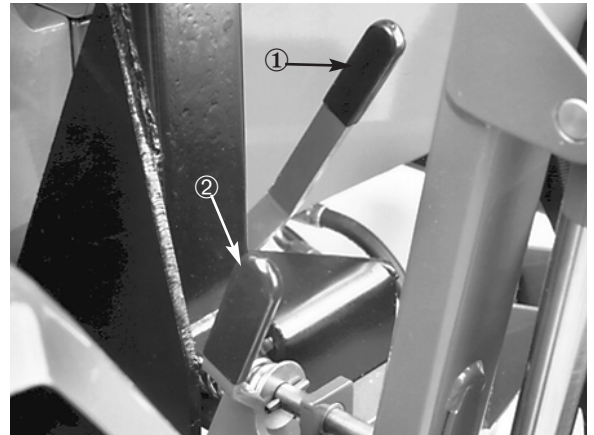
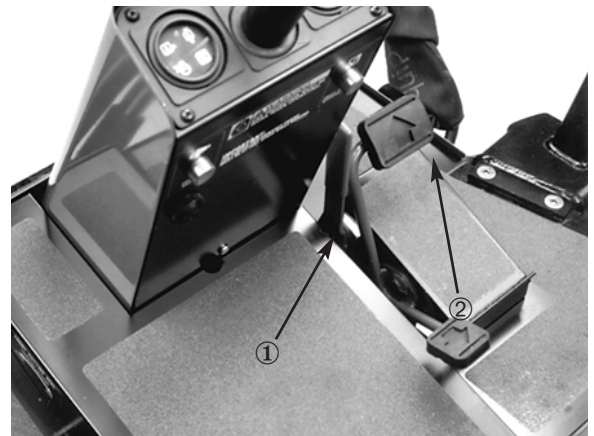

Figure 11
Figure 20
cutting units in upright position for transport. The latch for the front cutting units is foot-operated (Fig. 10). Hand-operated latches control the center and outside cutting units (Fig. 11).
1. Sit on the seat, keep your foot off the traction pedal. Make sure the parking brake is engaged (Fig. 11). The traction pedal and the mow/backlap lever must be in neutral.
Warning System—If a warning light comes on during operation, stop the machine immediately and correct the problem before continuing operation. Serious damage could occur if you operate the machine when it has a malfunction. *For short intervals*, however, you can use the emergency engine override button (Fig. 11) to operate the engine if it stops because of overheating.
While checking the speedometer, match the ground speed limiter (Fig. 20) and the reel speed control knob to the desired height-of-cut: refer to the cutting unit charts (Fig. 21). Use the decal at side of steering column as a guide only.
Start the engine and move the throttle to FAST so the engine runs at maximum speed. Move the Mow/Backlap lever to MOW (Fig. 11). The reels are now spinning. Disengage the hand brake. To move forward and cut grass, press the traction pedal forward (Fig. 20). Maintain traction pedal contact with the ground speed limiter to assure consistent grass clip and